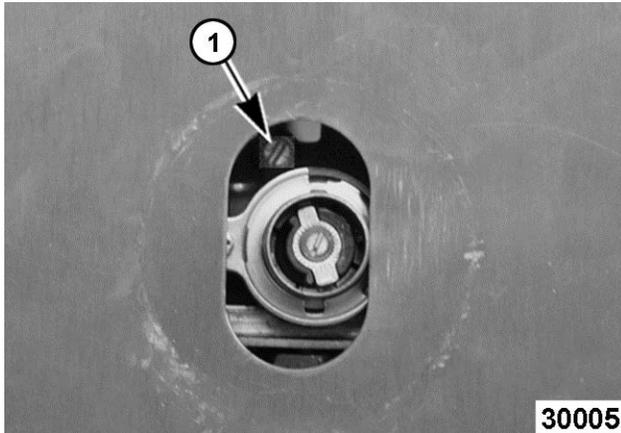

Fig. 116
6. With a small flat edge screwdriver, turn by-pass flame adjustment screw Fig. 116 counterclockwise to increase by-pass flame or clockwise to decrease flame until both legs of burner have approximately 1/8" stable flame on each port. Ports should be set to just above "flickering".